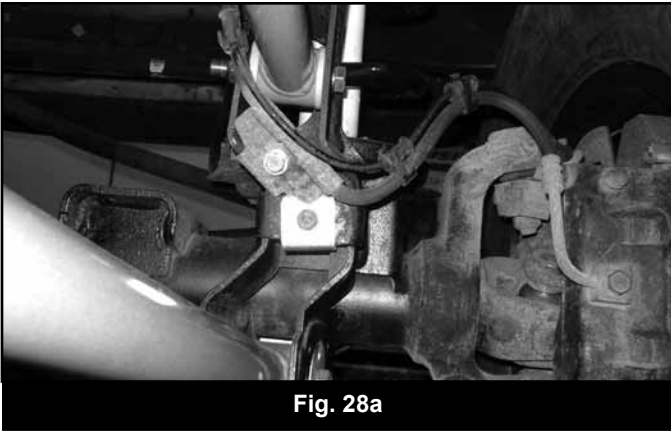

Fig. 28a
78. Install brakeline relocation brackets to axle with factory hardware. Attach factory brakelines to the relocation brackets with 5/16" x 1" hardware (#784). Tighten to 25 ft-lbs. (Fig 28a, 28b)